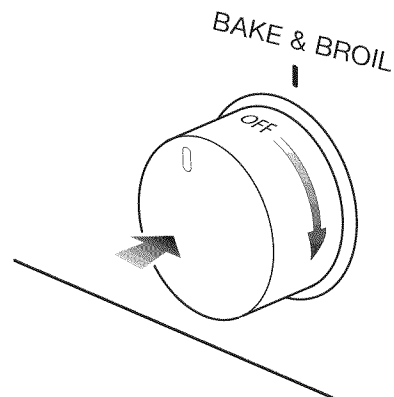

Fig. 3.5 Oven control knob
2) Press the oven control knob right down (the igniters will start 'clicking'), turn the knob clockwise (fig. 3.5) to the BROIL position.